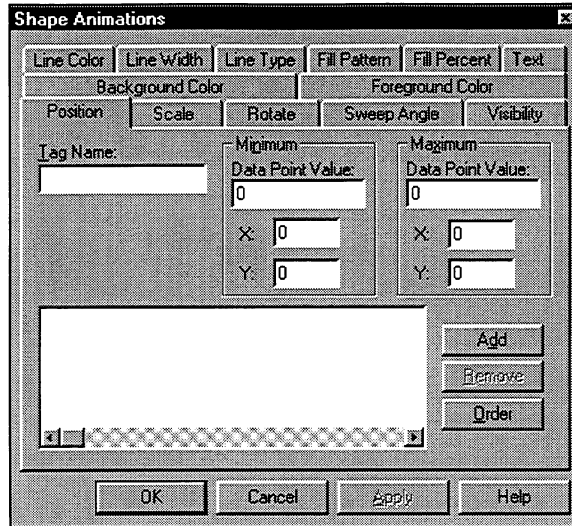

Figure 7-10. Position Animation Page
3. Select the Position tab to access the Position animation page, as shown in Figure 7-10.